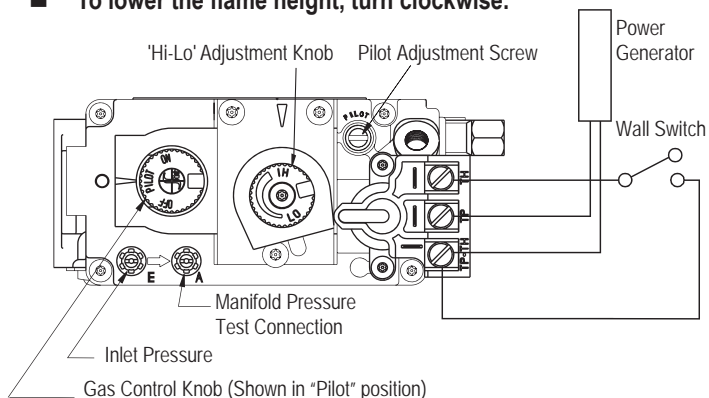

Figure 30. 'Hi-Lo' Adjustment on the SIT Nova 820 gas valve,
The L42DF* is equipped with an adjustable burner, allowing you to raise or lower the flames. To adjust the flames, locate the black knob marked 'Hi-Lo', in the centre of the gas control valve (See Figure 30).
1. Locate Pilot Adjustment Screw. (See figure 30 or 31.)
Pilot won't ignite	Disconnect remote wires and try to light pilot. If pilot now works, remote connections are faulty. Check wiring diagram figure 30.
Main burner will not ignite	1. Check wiring (see figure 30). 2. Check wall switch for proper connection.